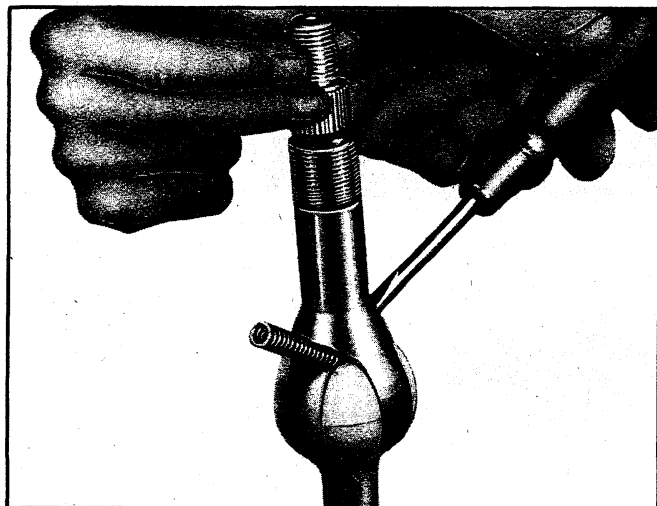

Fig. 47—Installing Spherical Joint Spring
- e. Insert the joint preload spring through the spheres into the lower shaft. Using the upper shaft to hold the spring in place, carefully feed the spring into the upper shaft joint with a narrow bladed screwdriver (fig. 47).